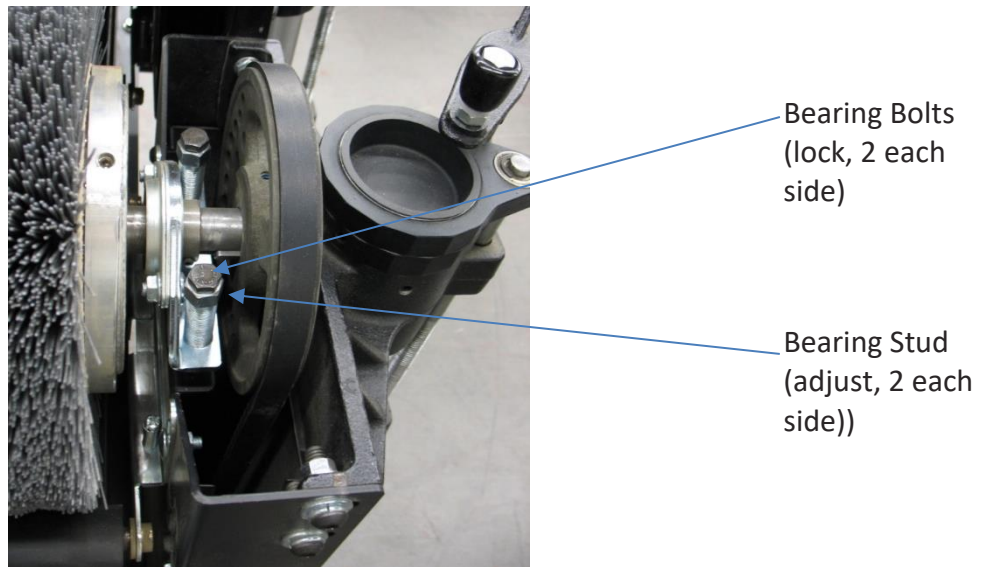

Figure 8: Aligning Brush Head
- A. Loosen the two bearing bolts (that secure the bearing to the machine) on the lower side of the brush, Fig. 8.